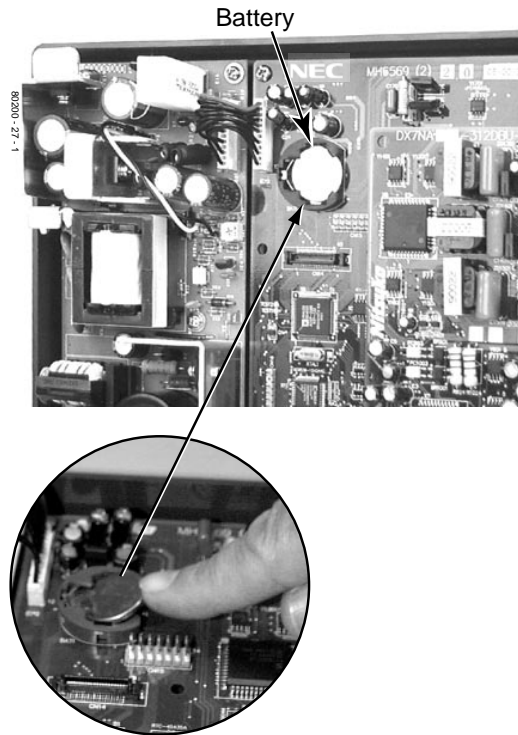

Figure 1-6: Installing the Battery
To install the battery (Figure 1-6):
2. Following Figure 1-6, gently push down on the battery and remove it.